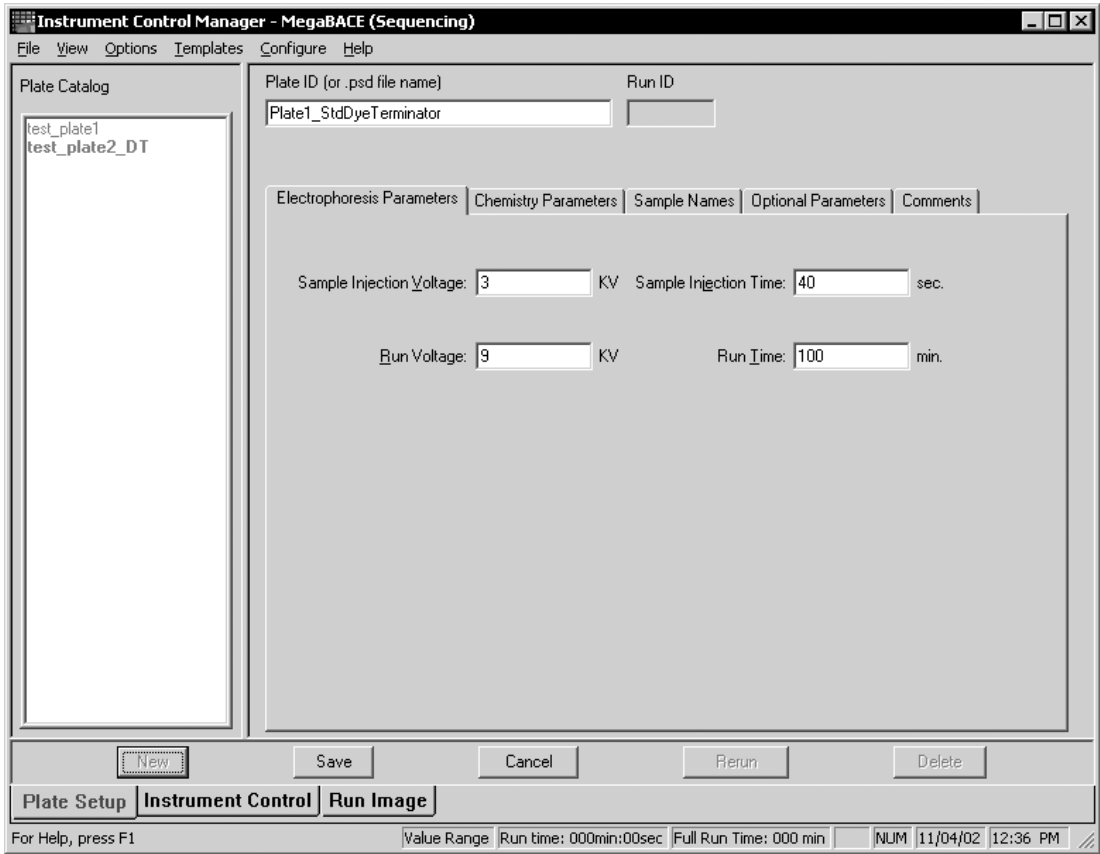

Figure 6-1. The Plate Setup window for sequencing.
- The Plate Setup window (figure 6-1) to create the definitions before the run. The operator can select the precreated plate definitions at the start of the Inject Samples and Run protocol.
You or an operator can create the plate definition before the run using the Plate Setup window (figure 6-1). To do this, you or the operator can—
You can use the Plate Setup window (figure 6-1) to create a plate setup template. To do this—
1. In the Instrument Control Manager, click the **Plate Setup** tab to display the Plate Setup window (figure 6-1).